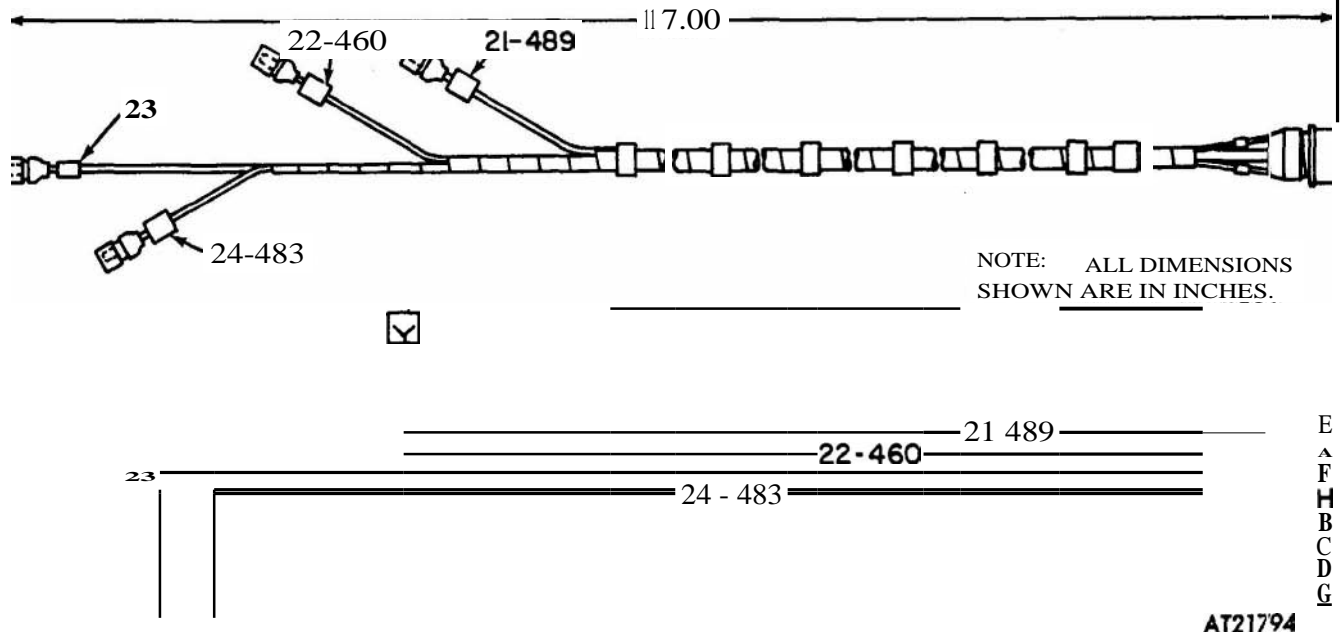

Figure 2-141. Carrier right rear harness.
b. *Repair.* Repairs shall be made in accordance with TB ORD 650 (fig 2-141).